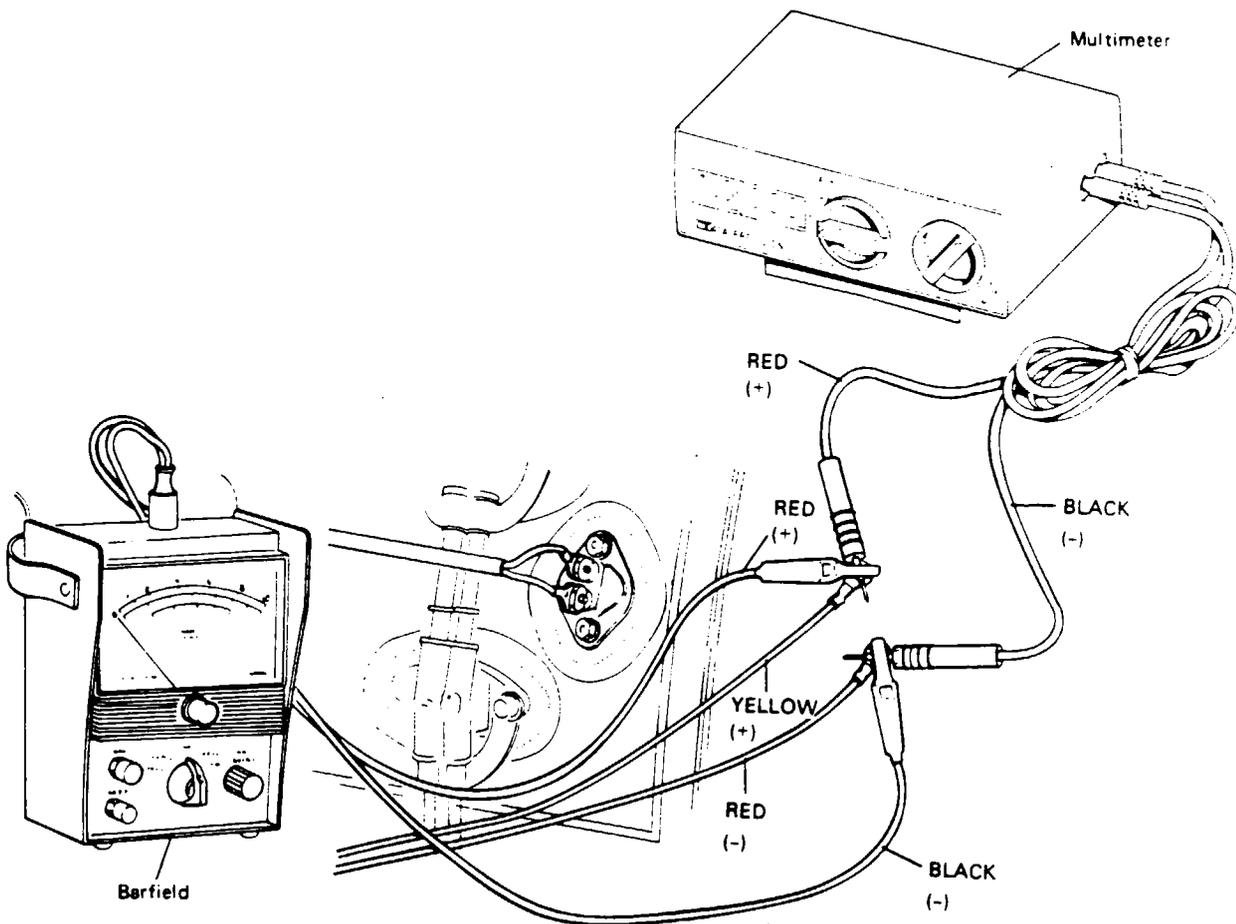

Figure 77-5. Inter-Turbine Temperature Calibration Check
**CALIBRATION CHECK OF INTER-TURBINE TEMPERATURE SYSTEM, (Refer to Figure 77-5.)**